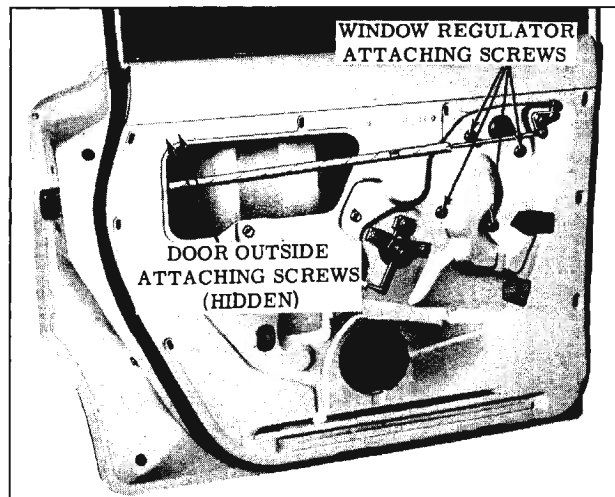

Fig. 16-260 Window Regulator and Outside Handle Attachment
4. Remove window regulator attaching screws. Carefully move regulator assembly rearward to disengage regulator arm roller from inner panel cam; then remove regulator from door. (Fig. 16-260)